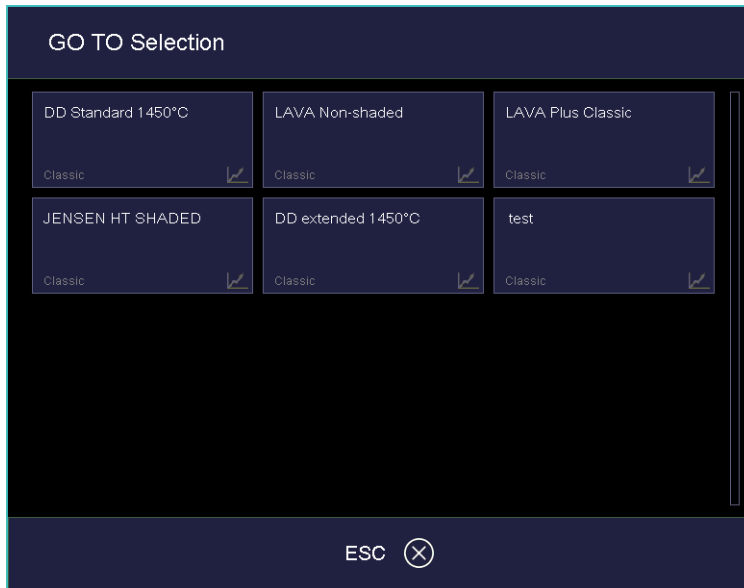

Fig. 5-8 "GOTO Selection" window (example)
- [GO TO] Opens the "GO TO selection" window. See Fig. 5-8. You can select another program within the set.
• [GO TO]	Opens the "GO TO selection" window so that you can select another program within the set. See Fig. 5-8